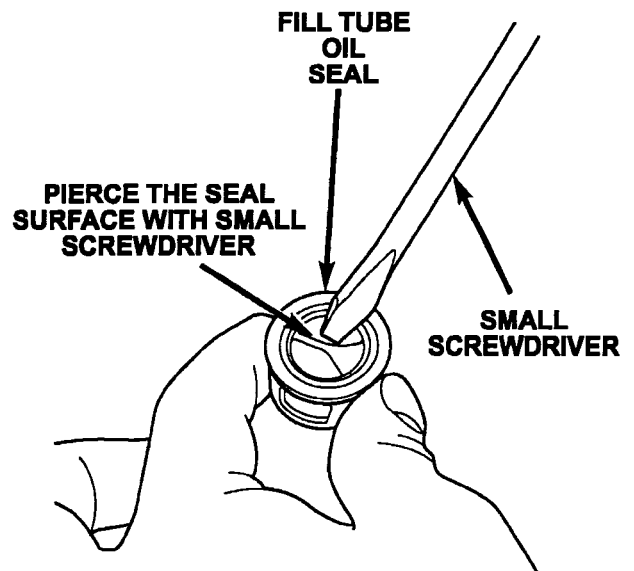

Figure 19
5. From the outside of the new seal, pierce the seal surface with small screwdriver along the molded “Y” (Figure 19). This will make installing the transmission fill tube easier.